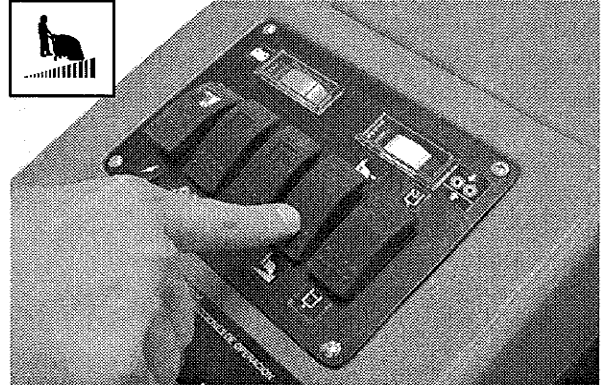

FIG. 12
2. Turn on main power switch and press drive switch toward the variable speed symbol (Figure 12).